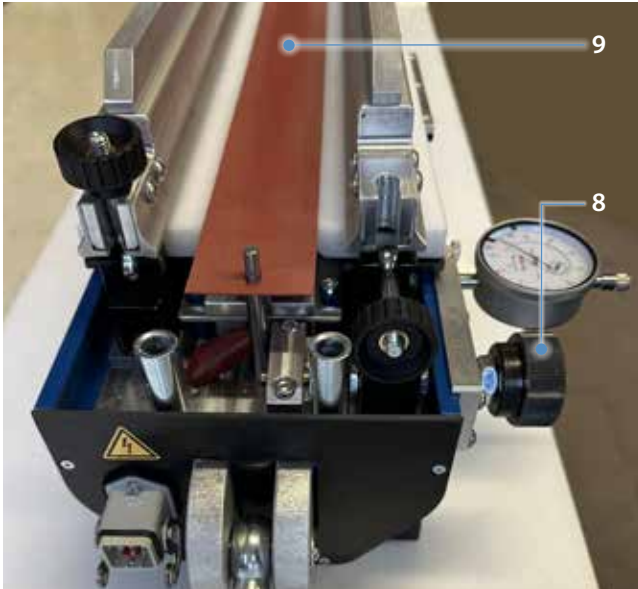

Fig. 4.2.3
6. If high impact pressure is to be generated later: Move the belt holder outward as far as it will go (only for FLT belt material). To do so, use the belt set screws (8) on the bottom section. (Fig. 4.2.3)
7. Place the soft film (9) or textured mat for the type of belt over the width of the press on the heating surface. (Fig. 4.2.3)